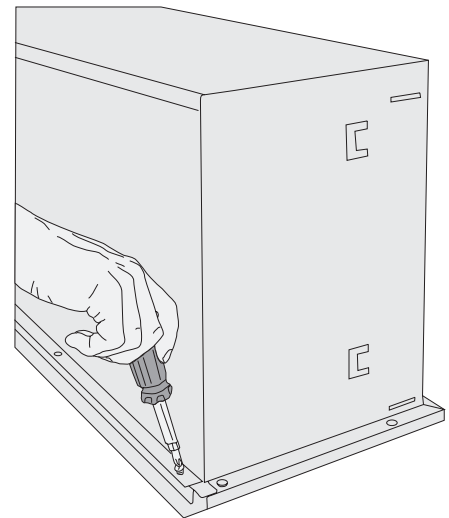

Figure 6
5. Remove the screw(s) joining the drawer front to the drawer front liner, then place the drawer body on the drawer front and liner and secure with #10 x $\frac{3}{8}$ sheet metal screws (see figure 6).